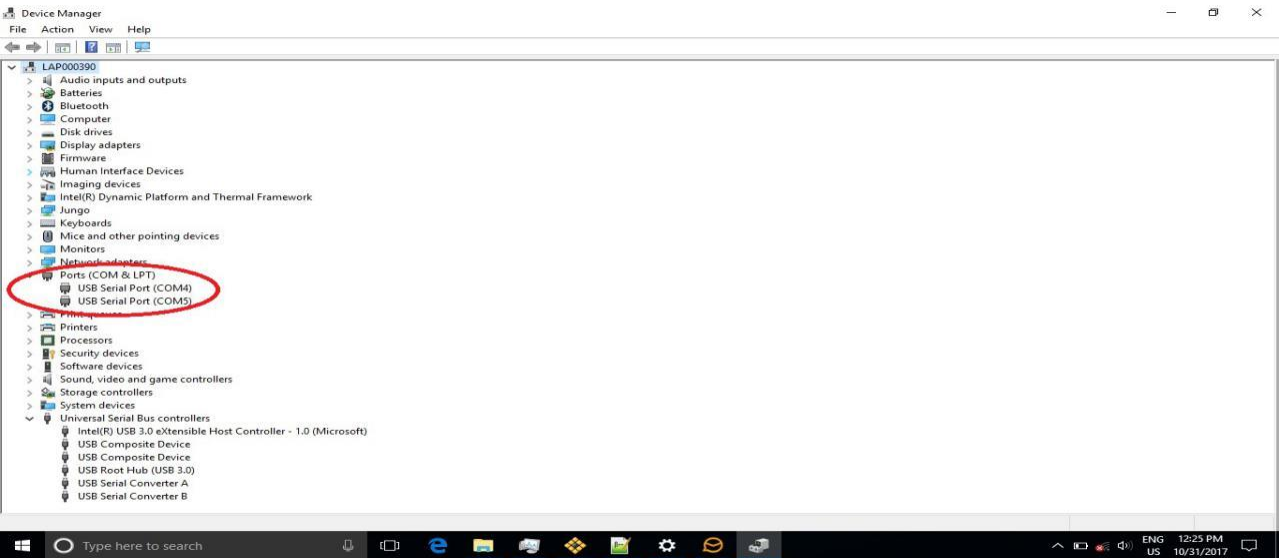

Figure 3: Screenshot of the device Manager
1. The device manager will recognize two COM ports as shown in Figure 3.